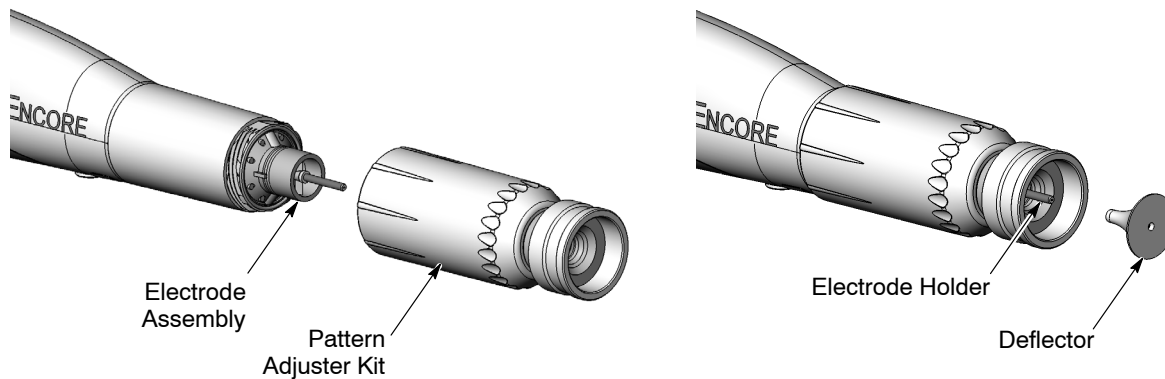

Figure 4-9 Pattern Adjuster Kit Installation
3. See Figure 4-9. Install the integral conical nozzle onto the electrode assembly and screw the nozzle nut clockwise until finger-tight